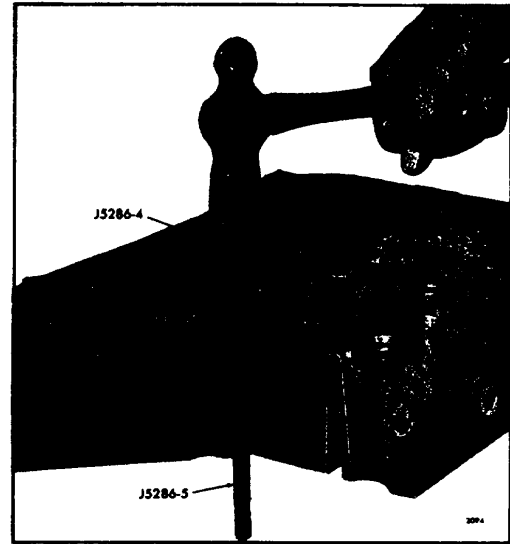

Fig. 2. - Installing Injector Tube
2. Place the installer J 52864 in the injector tube. Then, insert the pilot J 5286-5 through the small opening of the injector tube and thread it into the tapped end of the installer (Fig. 2.).
3. Slip the injector tube into the injector bore and drive it in place as shown in Fig. 2. Sealing is accomplished between the head counterbore (inside diameter) and outside diameter of the injector tube. The tube flange is merely used to retain the seal ring.